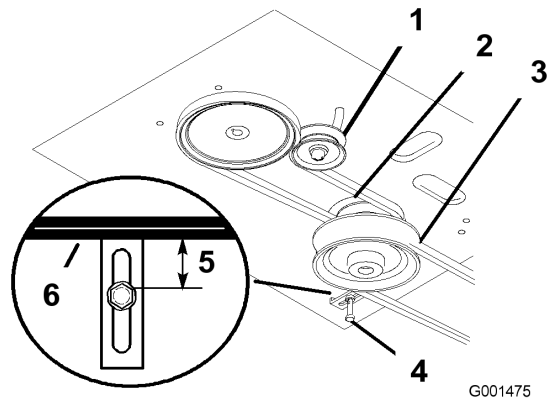

Figure 37
13. Check the belt guide under the engine frame for the proper adjustment (Figure 37).
Note: The distance between the belt guide and the mower belt should be 1-1/4 inch (32 mm) when you engage the mower belt (Figure 37). Adjust the mower belt as necessary. The disengaged belt should not drag or fall off the pulley when the guides are properly adjusted.